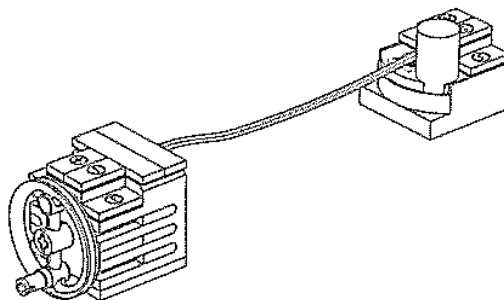

Figure 1.16: Capacitor connected to the motor
1. As a first step, check that the capacitor is discharged or empty. This can be done by connecting the capacitor to the motor as shown in figure 1.16. The motor will not turn if the capacitor has discharged.